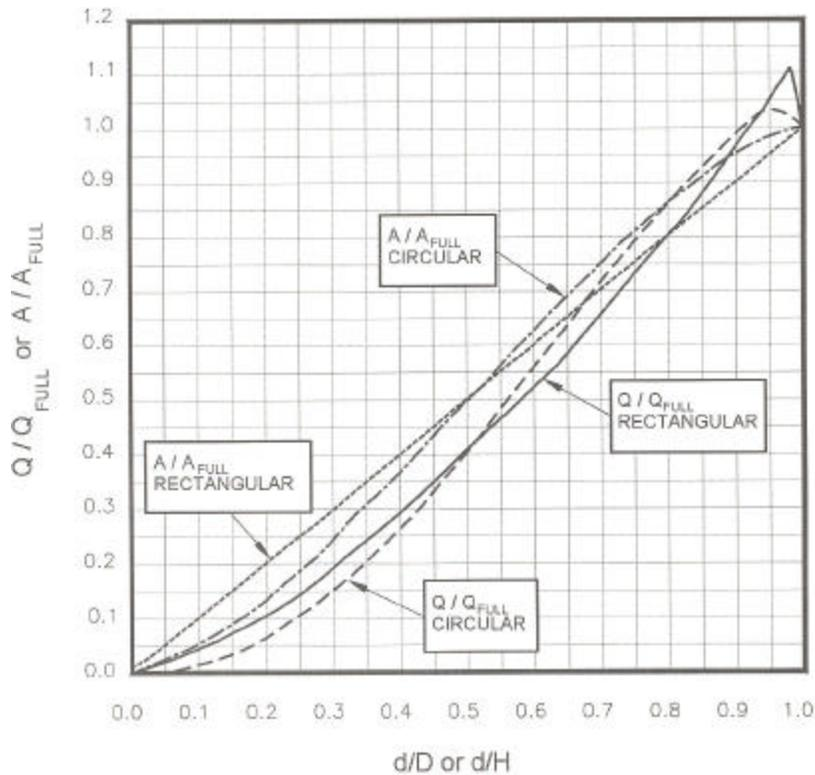

Figure 2. Discharge and Flow Area vs. Depth of Flow for Circular and Rectangular Pipes.
The normal depth of flow and the velocity at that depth in a conduit can be found with the aid of Figure 2. Using the known design discharge, Q , and the calculated pipe-full discharge, Q_{full} , enter Figure 2 with the value of Q/Q_{full} and find d/D for a circular pipe or d/H for a rectangular pipe.
Again enter Figure 2 using the smaller d/D (or d/H) ratio to find the A/A_{full} ratio. Use this to calculate the area of flow at the end of the pipe, namely,
Step 3. Using the $Q/Q_{full} = 0.88$ ratio, Figure 2 gives $d/D = 0.82$ for a circular pipe.
Step 5. Since the smaller of the two d/D ratios is 0.57, use it to find the calculate depth, d , at the outlet and then in Figure 2 to find the ratio for $A/A_{full} = 0.59$.
Step 3. Using the $Q/Q_{full} = 0.70$ ratio, Figure 2 gives the ratio $d/H = 0.73$.
Step 5. Since the smaller of the two d/H ratios is 0.73, use it to find the depth, d , at the outlet and in Figure 2 to find the ratio for $A/A_{full} = 0.73$.